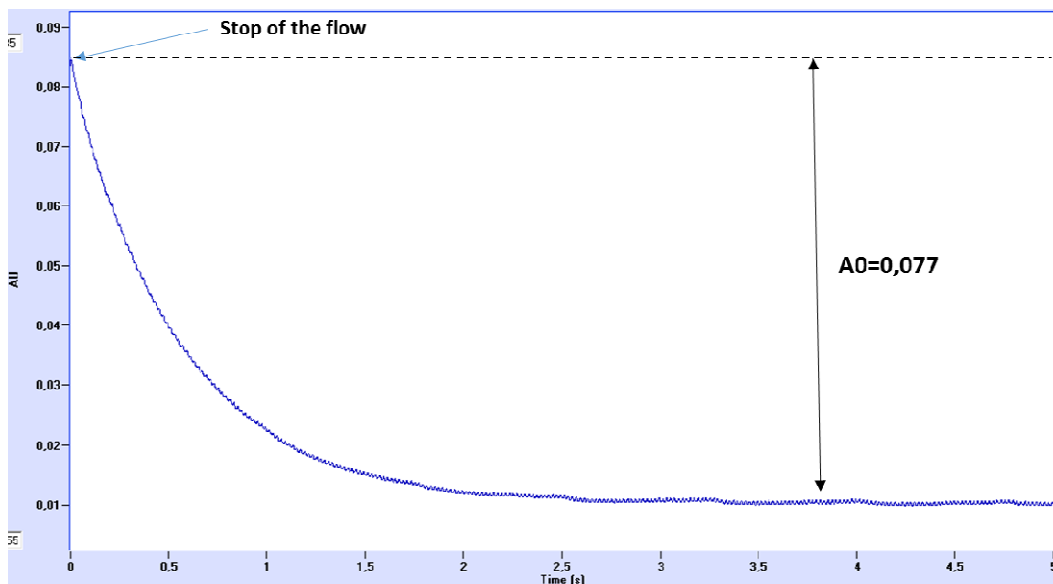

Figure 24: reduction at pH=9.
- The data obtained is shown in Figure 24.